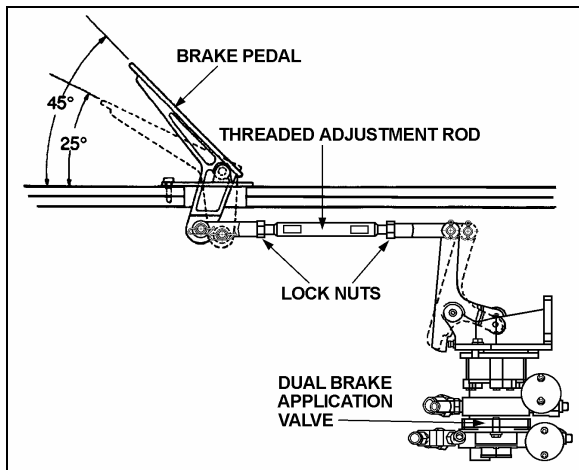

FIGURE 14: BRAKE PEDAL ADJUSTMENT
The E-10P dual brake valve is a floor mounted, foot-operated type brake valve with two separate supply and delivery circuits. This valve is located in the front service compartment (Fig. 14).
1. Replace the linkage, loosen threaded rod lock nuts and screw or unscrew the threaded adjustment rod in order to obtain a 45° brake pedal inclination (Fig. 14).